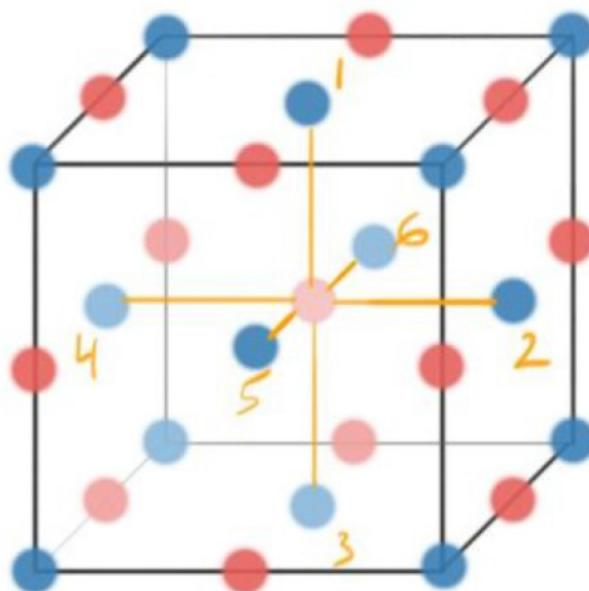

Figure 3: The rock salt ceramic crystal structure.
For cations in rock salt, it is fairly easy to determine by looking carefully at the unit cell, focusing on the central cation, as shown in Figure 3. The central cation touches each of the face centred anions, for a coordination number of 6. **Cation Coordination Number_{RockSalt} = 6** (1)